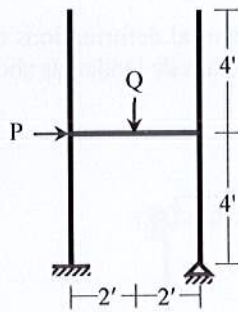

Fig.8
7. Use the Energy Method to calculate the load (i)  $Q$  needed to form beam mechanism, (ii)  $P$  needed to form the sidesway mechanism in the frame loaded as shown in Fig.8